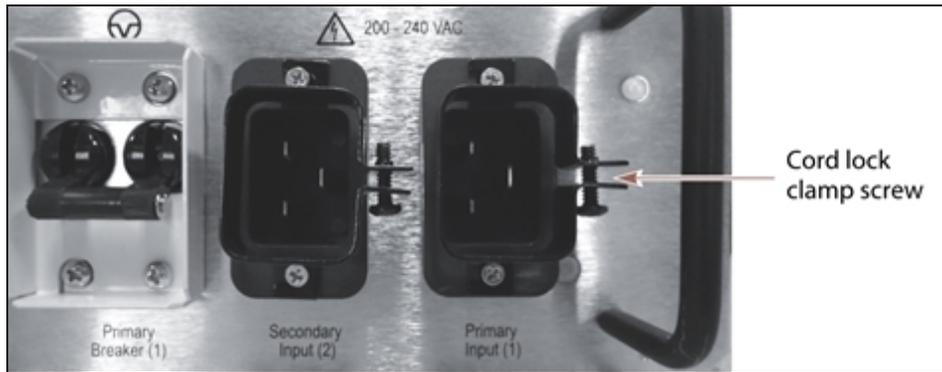

Figure 96 Install the cord locks on the power cords.
5. Place a cord lock over the connector on the end of the power cord that connects to the library. Orient the cord lock as shown in Figure 96.